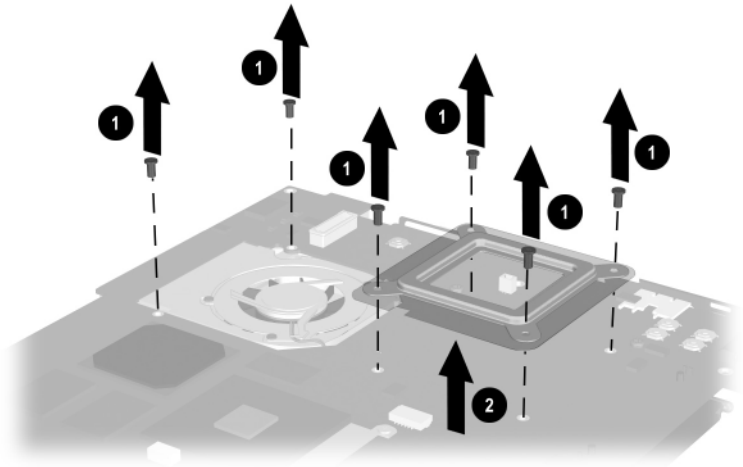

Figure 5-34. Removing the Heat Sink Screws
5. Remove the six PM2.0 $\times$ 4.0 screws ❶ that secure the processor mounting bracket and heat sink to the system board (Figure 5-34).
6. Remove the processor mounting bracket ❷.